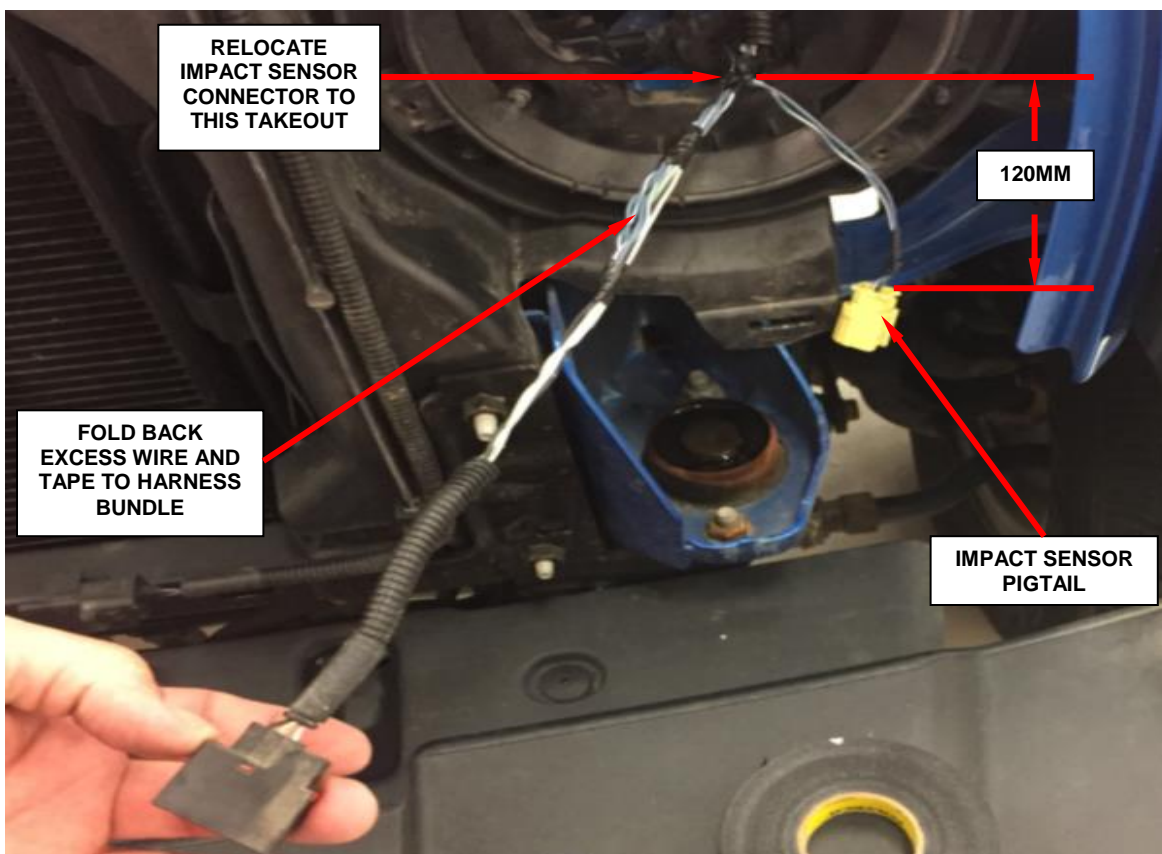

Figure 16 – Relocate Impact Sensor Pigtail
41. Relocate the left front impact sensor wiring pigtail by pulling it rearward to the next wire harness takeout as shown (Figure 16).
42. Tape the left front impact sensor wiring pigtail to the wire harness bundle and make the pigtail length **120mm** (4.75in) (Figure 16).
43. Fold the excess wire length to the wire harness bundle and tape securely (Figure 16).